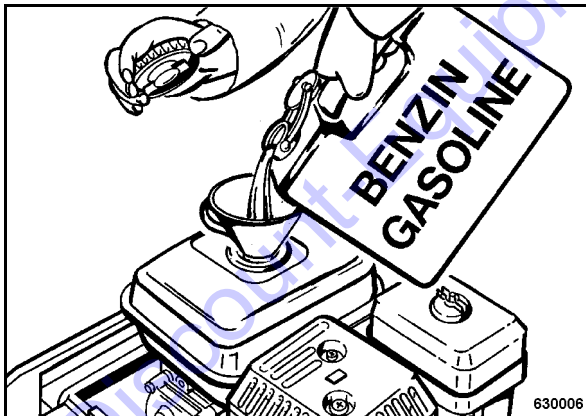

Fig. 43
- Clean the area around the filler cover, unscrew the filler cover (Fig. 43).